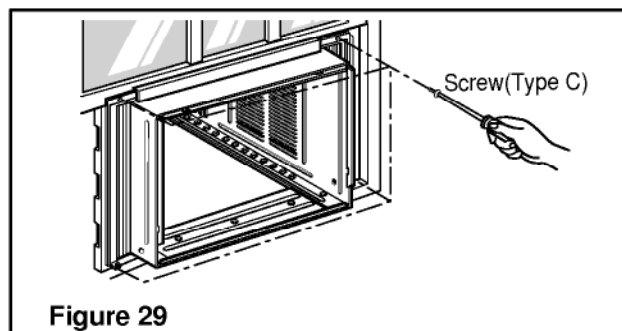

Figure 29
6. Attach each Frame curtain the window sash by using screws (Type C). (See Fig. 29)